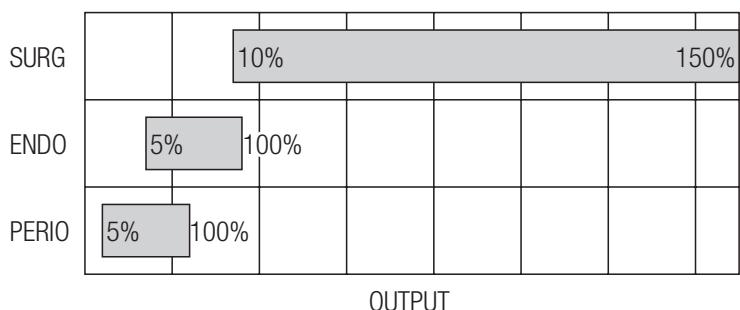

Fig. 20
* Power outputs at various Modes are compared in Fig. 20.